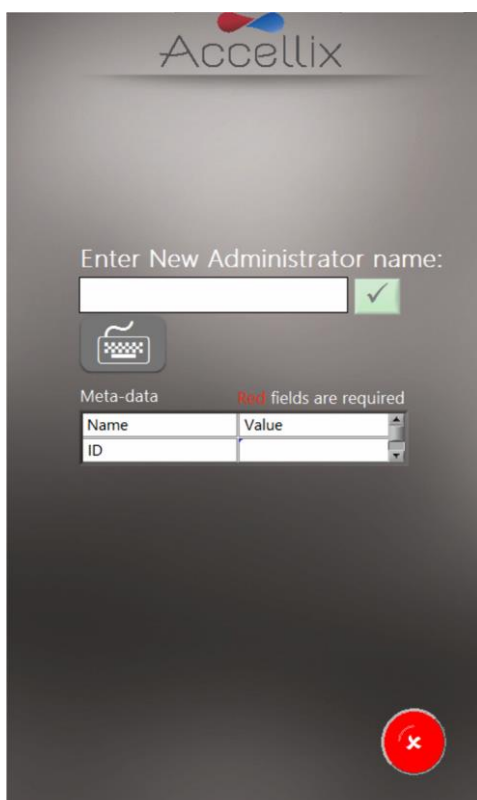

Figure 9: Add User screen
1. Tap the **Add** icon . The **Add User** screen (Figure 9) is displayed: